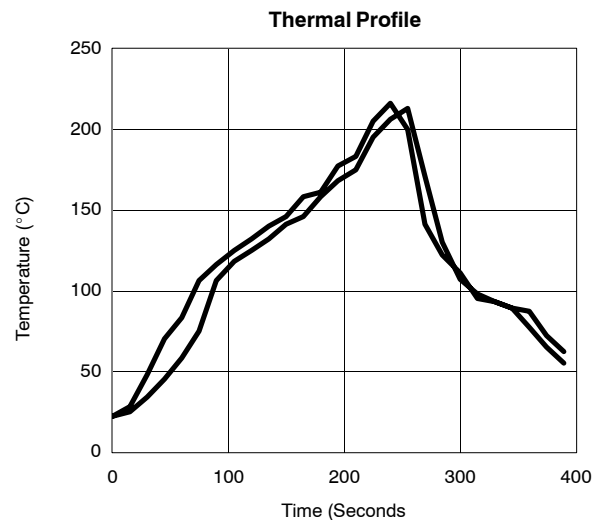

FIGURE 6. Reflow Profile
**Reflow Process.** MICRO FOOT products can be assembled using standard SMT reflow processes. Similar to any other package, the thermal profile at specific board locations must be determined. Nitrogen purge is recommended during reflow operation. Figure 6 shows a typical reflow profile.